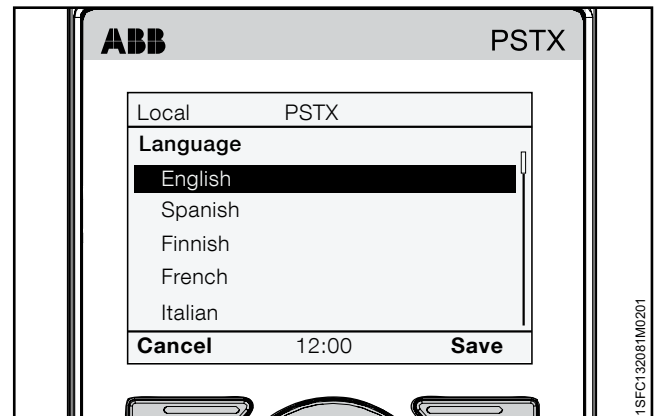

Figure 6.36
5. Use  and  to select language. See Figure 6.36.